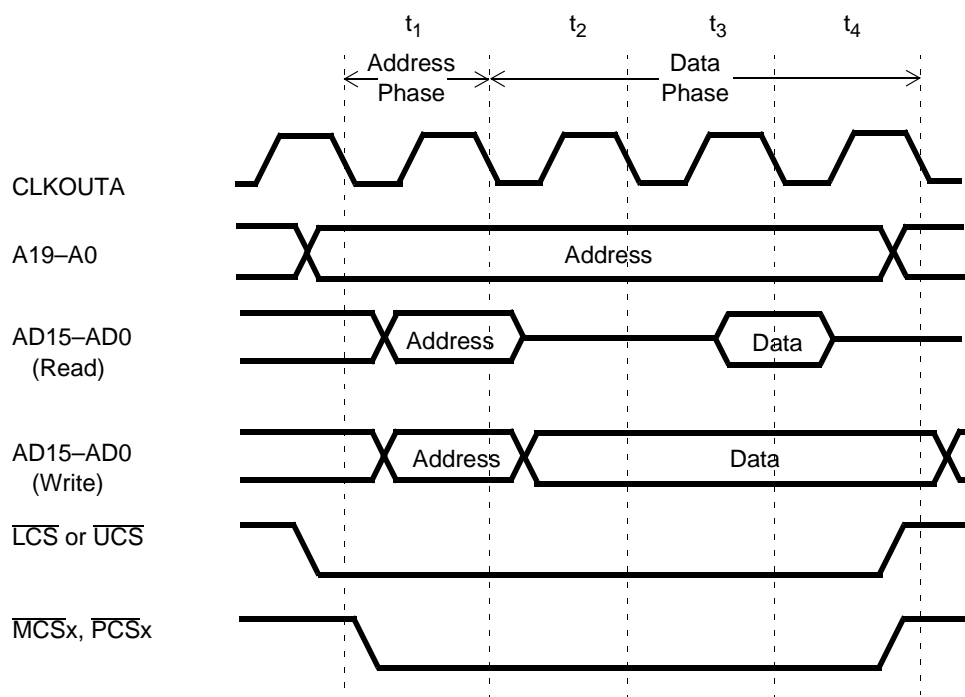

Figure 4. Am186ES Microcontroller Address Bus—Normal Read and Write Operation
- Figure 4 shows the affected signals during a normal read or write operation for an Am186ES microcontroller. The address and data are multiplexed onto the AD bus.